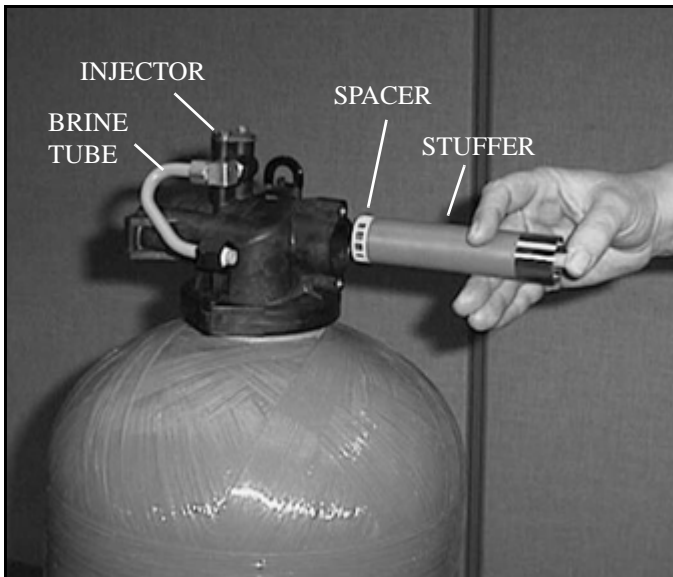

Figure 4 *Replacing Spacer In Valve Body*
11. To replace seals, spacers and end ring, use special tool with the brass sleeve on one end. This is a double-purpose tool., (See Fig. 4). The male end acts as a pilot to hold the spacers as they are pushed into the valve body and the brass female end is used to insert the seals into the valve body.
12. To restuff a valve body, first take the end ring (the plastic or brass ring without holes), then with your thumb press the button on the brass sleeve end, the large dia. inner portion is now exposed (See Fig. 4). Place the end ring on this pilot with the lip on the end ring facing the tool, and push the tool into the valve body bore until it bottoms. While the tool is in the valve body, take a seal and press it into the inside diameter of the exposed brass female end (See Fig. 5).